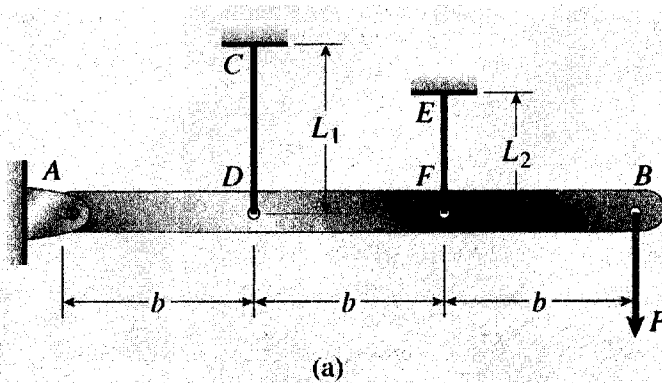

Fig. 1 A horizontal rigid bar AB is pinned at end A and supported by two wires (CD and EF) at points D and F
1. A horizontal rigid bar AB is pinned at end A and supported by two wires (CD and EF) at points D and F (Fig. 1). A vertical load P acts at end B of the bar. The bar has length $3b$ and wires CD and EF have lengths L_1 and L_2 , respectively. Also, wire CD has diameter d_1 and modulus of elasticity E_1 ; wire EF has diameter d_2 and modulus E_2 .